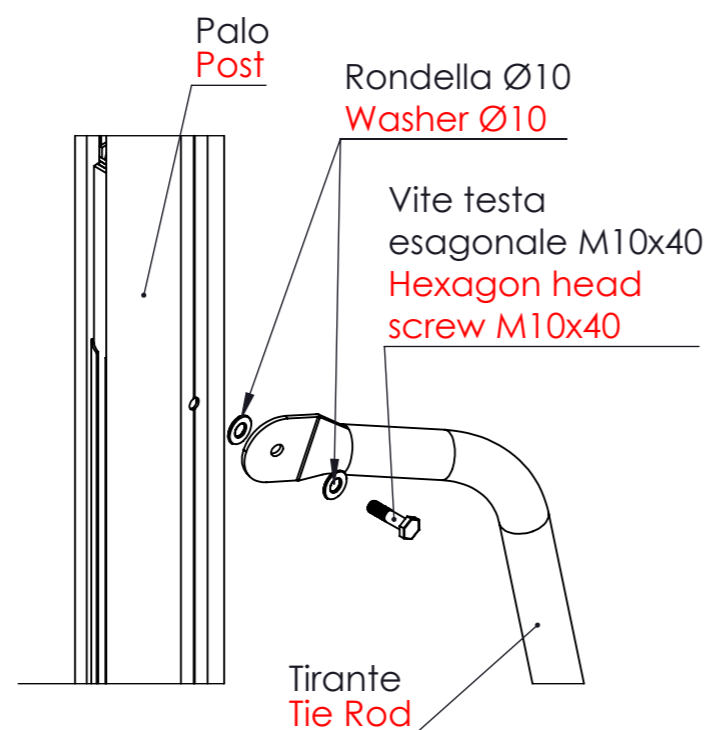

FIG. 2
2. The tie rods can be secured to the upper half of the post: first secure the tie rod on the side without the M10x40 hexagon head screw as shown in Figure 2, placing a washer between the tie rod and the post and between the M10x40 hexagon head screw and the tie rod, without tightening fully.